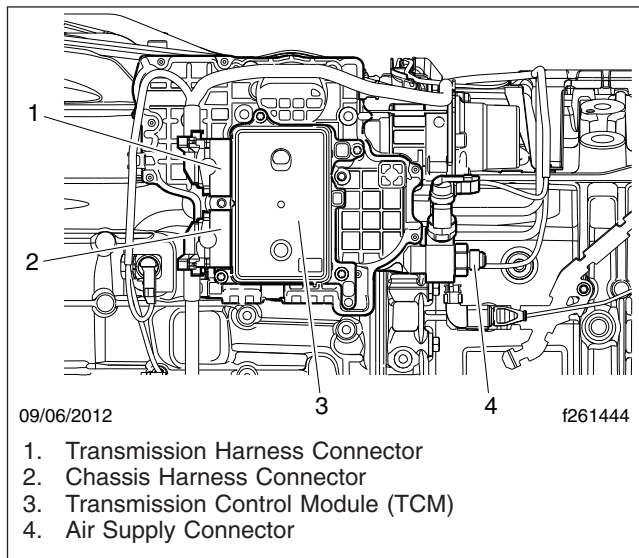

Fig. 2, TCM and Shift Controller Connectors
5. Connect the chassis wire harness to the TCM. See Fig. 2.